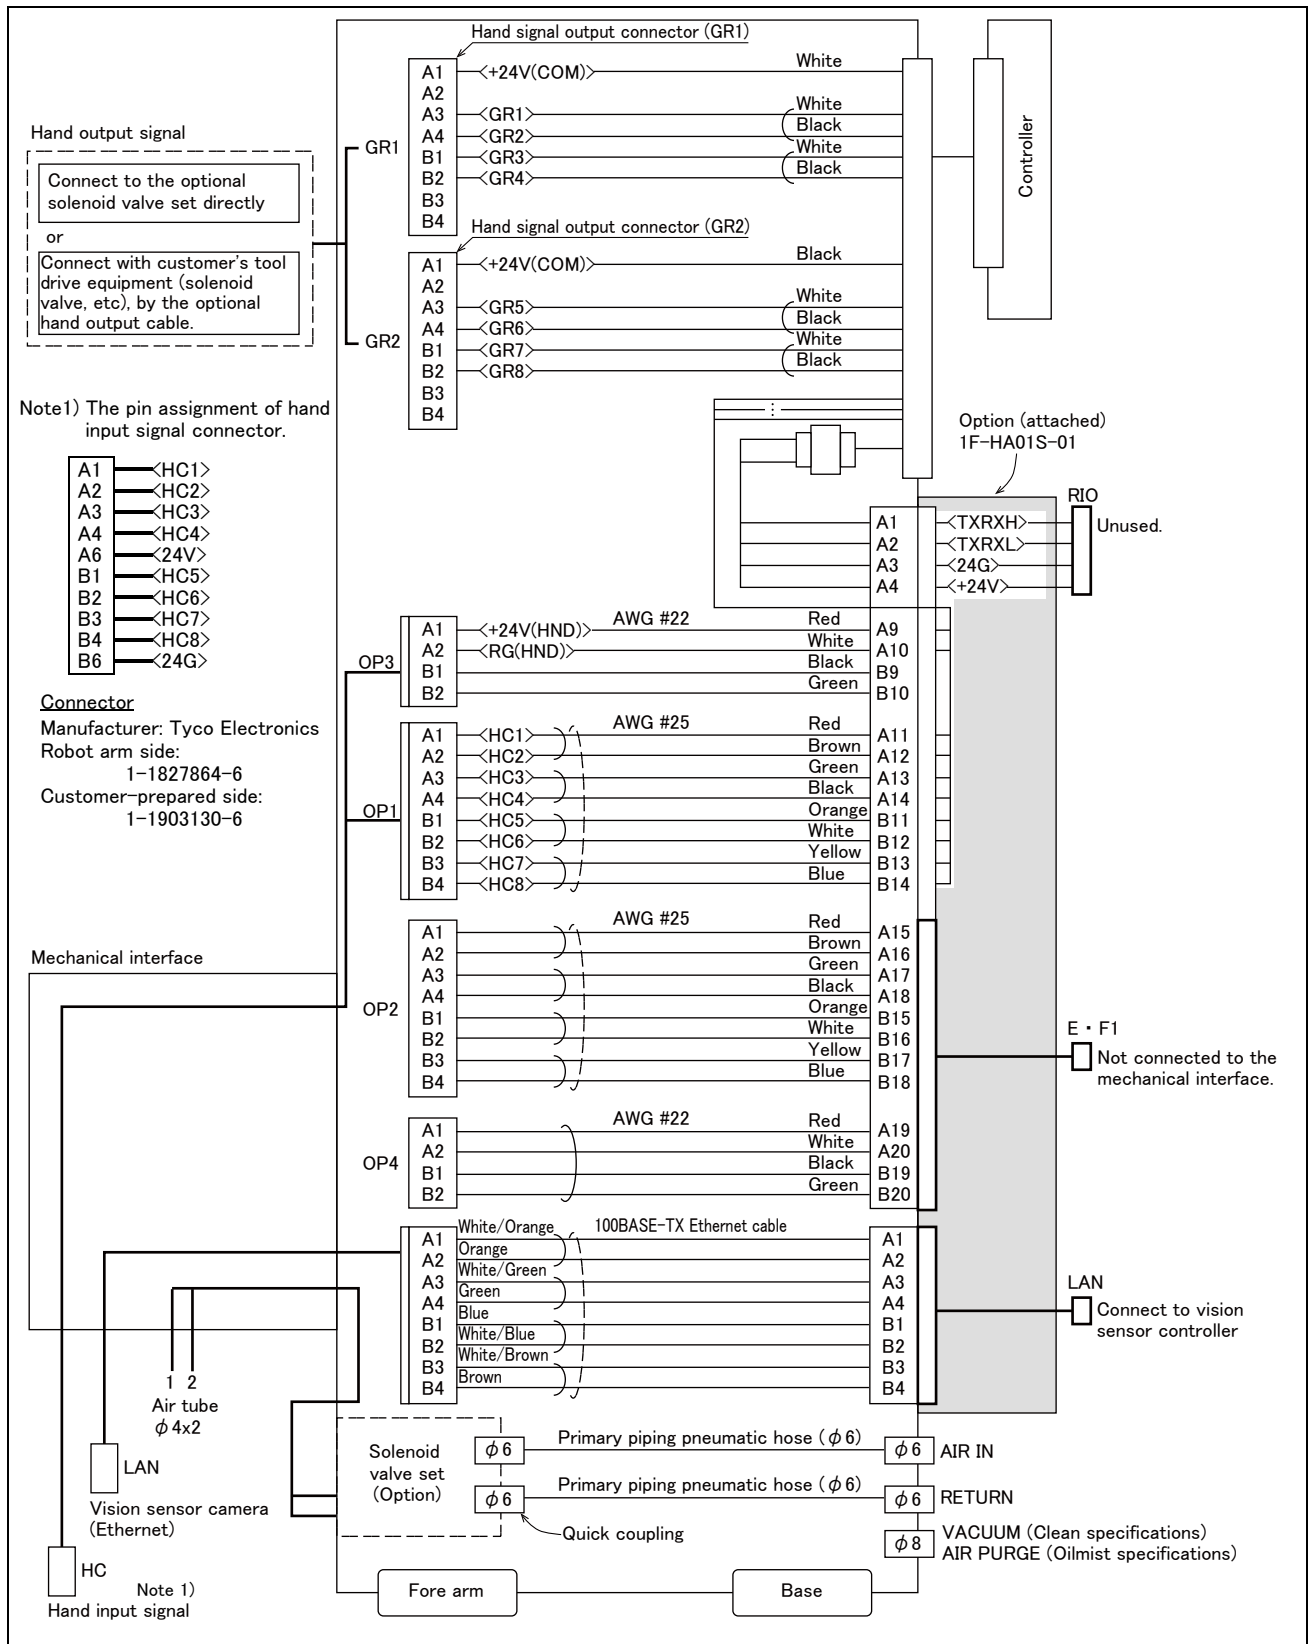

Fig.2-38 : Wiring and piping system diagram for hand and example the solenoid valve installation: RV-4FR/7FR/13FR series SH05
- \*3) Refer to Fig. 2-38 for pin assignment of the hand input cable (HC).